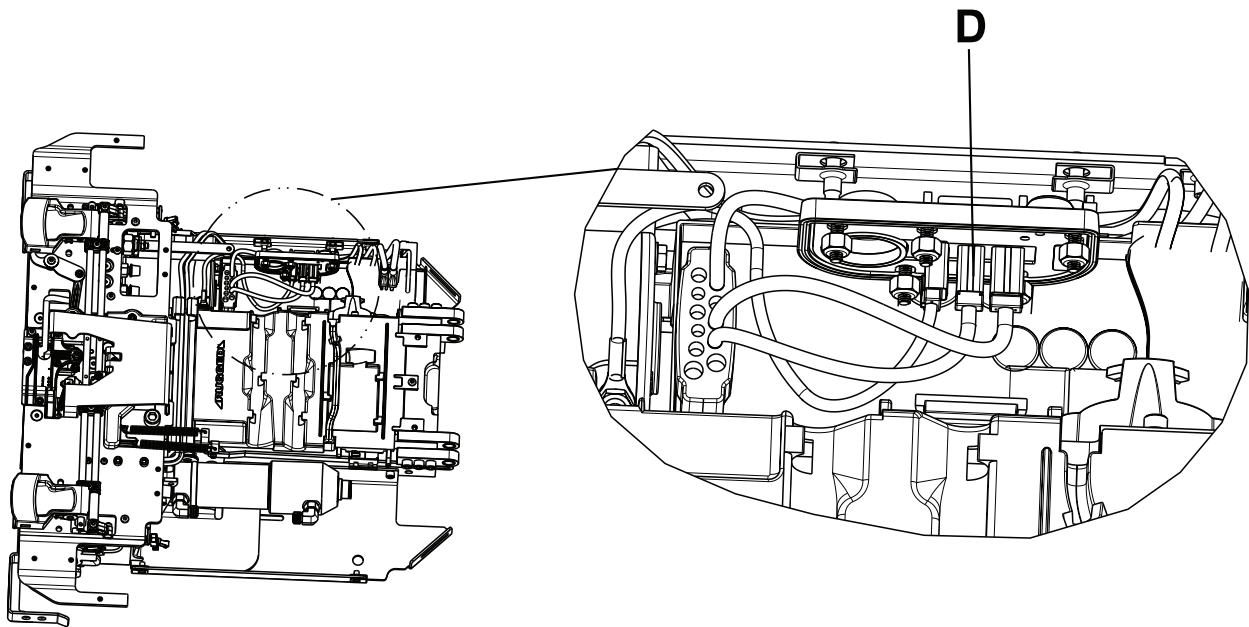

Figure 14 – On/Off switch cable locations
7. Unplug the cables from the master On/Off switch (D) and remove the manual release button assembly (Figure 14).